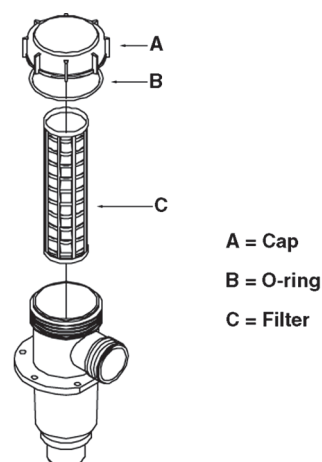

Fig 29
- 1 Unscrew the red cap (A Fig 29).
- 2 Lift the filter (C Fig 29) from the housing.
- 3 Ensure the O-ring (**B** Fig 29) on the red cap is in good condition and lubricated.
- 4 Refit the red cap (**A** Fig 29).